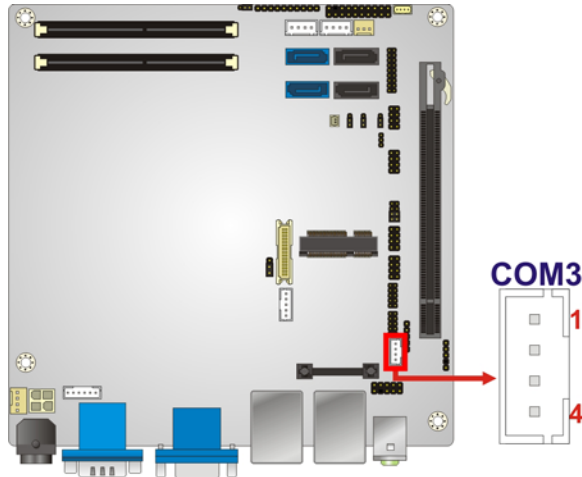

Figure 3-18: Serial Port Connector (RS-422/485) Location
- CN Location:** See **Figure 3-18**